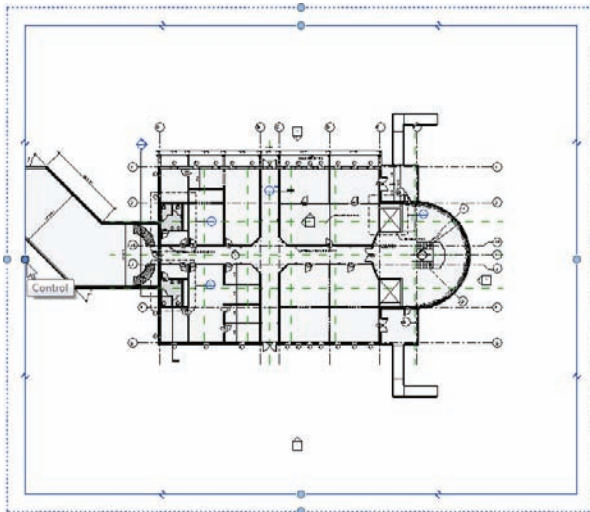

FIGURE 13.4 Dragging the crop region to the right in the Level 1 East view
6. Drag the left side of the region to the right, as shown in Figure 13.4.